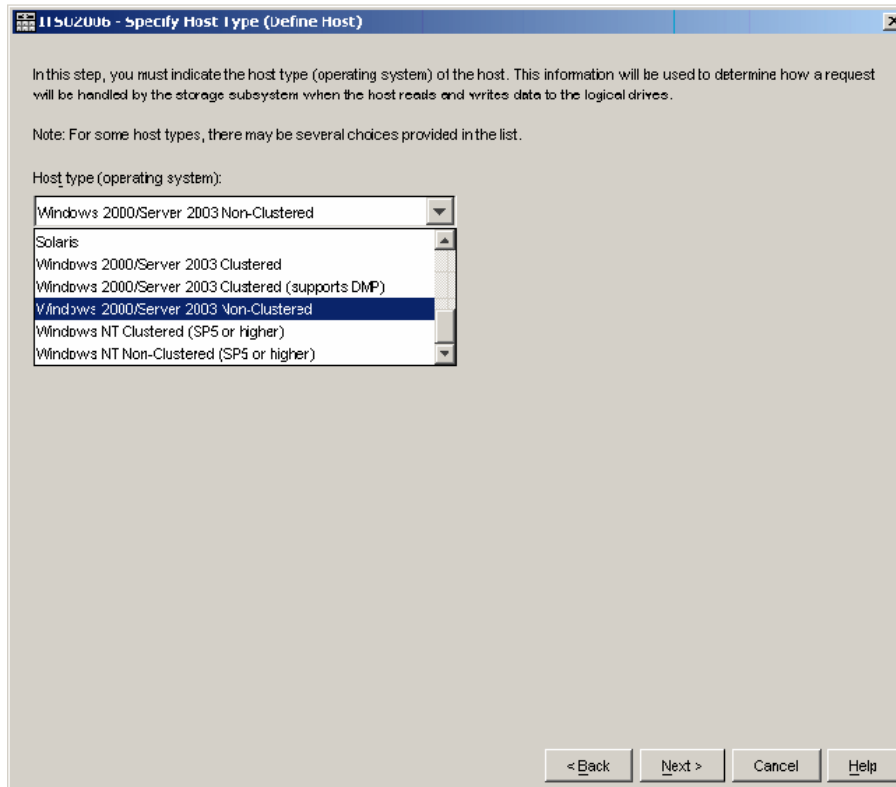

Figure 5-77 Define the Host OS Type
5. Specify the host OS type and click **Next**, as shown in Figure 5-77.